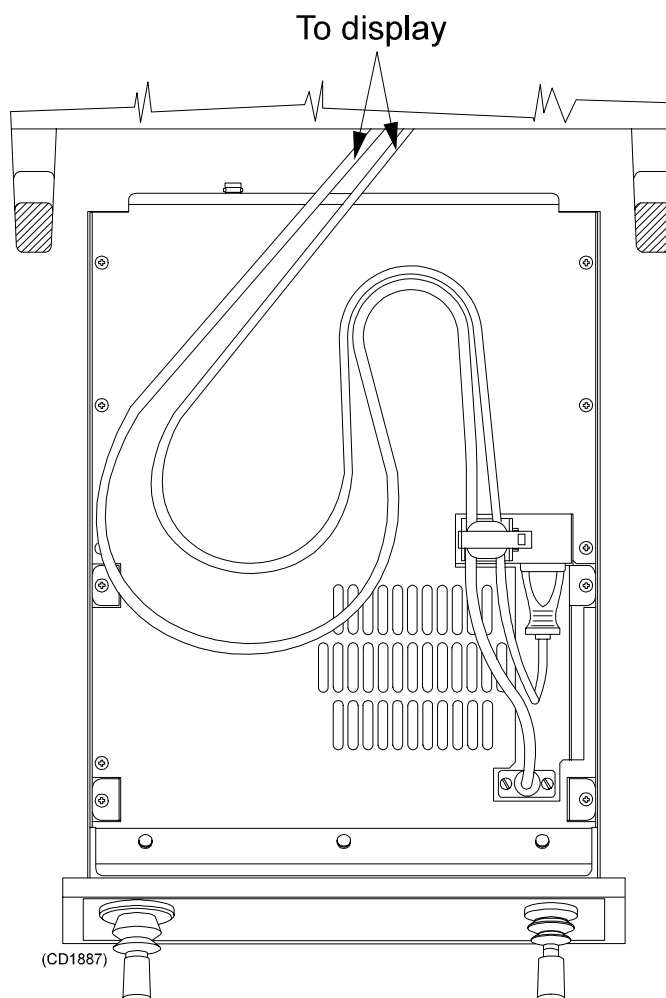

Figure 3 - Figure 3. Mounting the electronic drawer unit
- Refer to figure 3 to reconnect the two display cables.
- Arrange the two display cables as shown in figure 3, and guide the drawer unit gently into the cabinet. Ensure the two guiding pins at the rear of the cabinet match the two holes at the rear of the drawer unit. Fasten the drawer unit with the four front fastening screws.